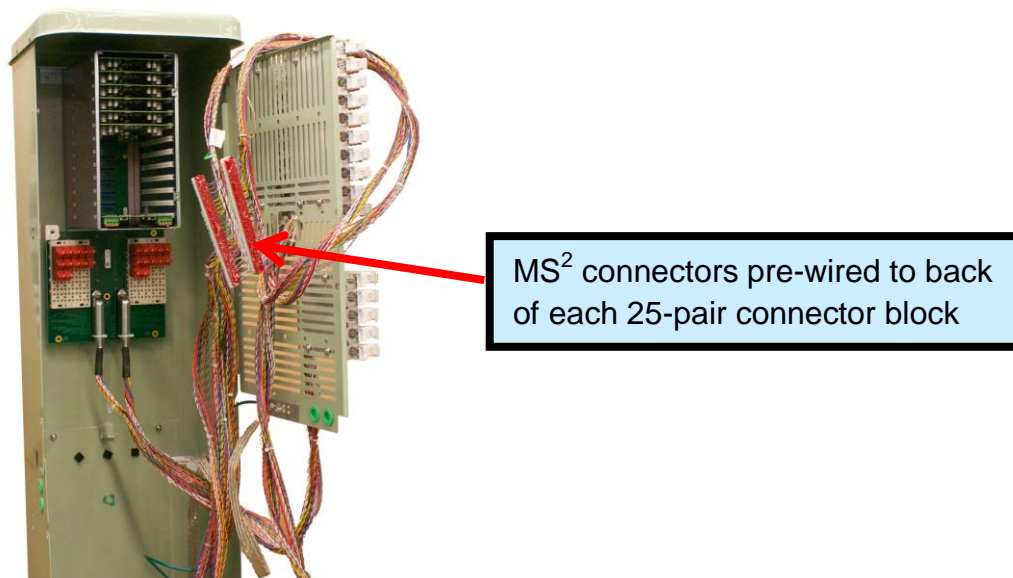

Figure 13: View of 3M MS² connectors to attach binder pairs from the DSLAM and CPE devices
- **STEP 6:** Connect the 3M MS² connectors (see Figure 13) from the cross connect modules to each 25-pair cable in the binder from the DSLAM (see Note below).